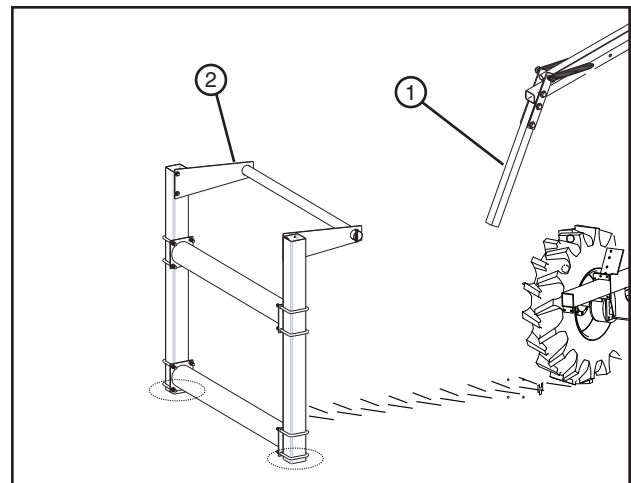

Figure 33-2 1. Actuator arm
- Care must be taken when the barricade option in Figure 33-2 is used.